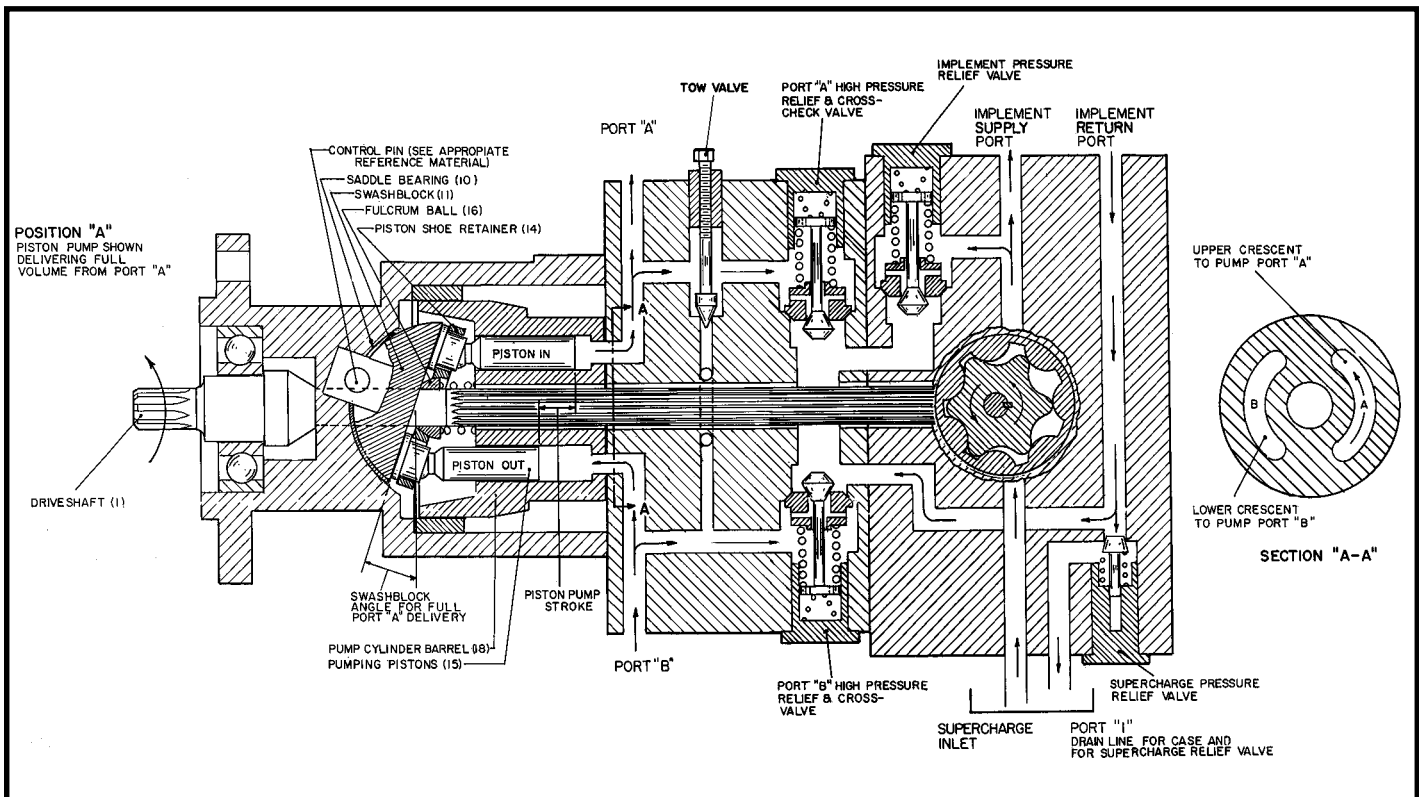

Figure 3. Cut-a-way Circuit Diagram of "PVWC" Pump Without Controls. POSITION A Plan View, Swashblock Positioned for Full Delivery from Port A. (E51837 sh. 6).
See Figure 3. Turning the driveshaft (1) rotates the splined pump cylinder barrel (18) which contains pumping pistons with swivel shoes (15). A shoe retainer (14), backed up by a spring loaded fulcrum ball (16), holds piston shoes against a swashblock (11).
SEE FIGURE 3. POSITION A. When the control positions the swashblock for full delivery from Port A, the swashblock is at maximum angle (to the cylinder face). When cylinder is rotated, the pistons move in and out of their bores as shoes "ride" against the angled swashblock.
See Figure 3. The inner element of the Gerotor rotor pump has one "tooth" less than the outer element and thus forms a series of "pockets". As the inner element is rotated, the outer element
See Figure 3. The high pressure piston pump is supercharged by exhaust from I.P.R.V. or return flow from the "implement" circuit. If the flow from any one or any combination of these is more than is necessary to supercharge the piston pump, the pressure acting on the face of the Supercharge Pressure Relief Valve (SPRV) poppet compresses the poppet spring allowing the poppet to move off of its seat and permit flow into the pump case (and subsequently out the case drain).
See Figure 3. An optional "Tow Valve" package may be included for mobile applications allowing "free wheeling" of the (connected) hydraulic motor without disconnecting the drive (train) while the unit is being towed.